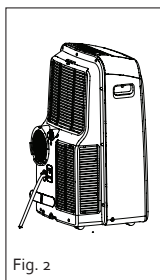
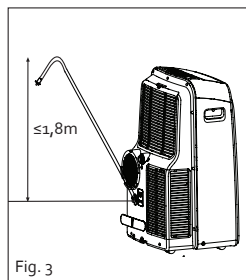

Fig. 2
Fig. 3
6. Make sure that the water can drain off in a safe and permanent manner (Fig. 2). The water is pumped out of the unit, allowing the drain hose to be raised to a maximum of 1.8 m (Fig. 3).